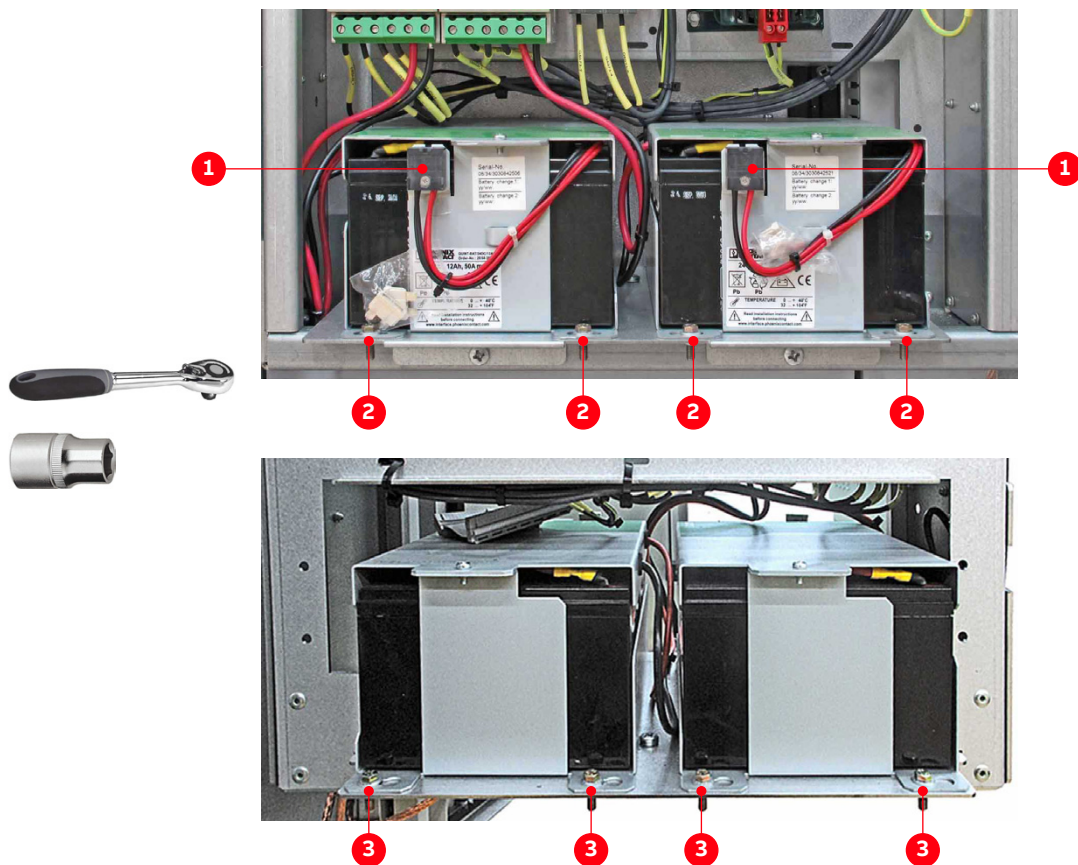

Figure 11-7: Control compartment - replacing the batteries
2. Disconnect the wires (1 in Fig. 11-7).
3. Unscrew the battery at the front (2 in Fig. 11-7) and at the back (3 in Fig. 11-7).